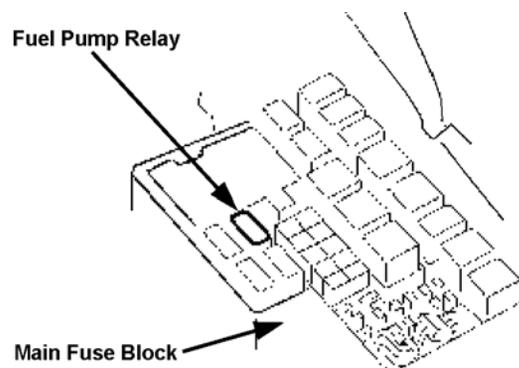

Figure MA014-13
1. Relieve fuel pressure by starting the engine, then remove the fuse from the engine compartment relay box (Figure MA014-13), the engine will stall.